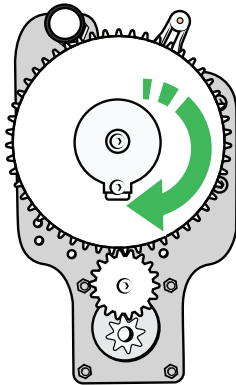

Figure 135
26. To set the coldest position, turn the large gear wheel clockwise just until the blue light (hall sensor) is lit. See Figure 135.